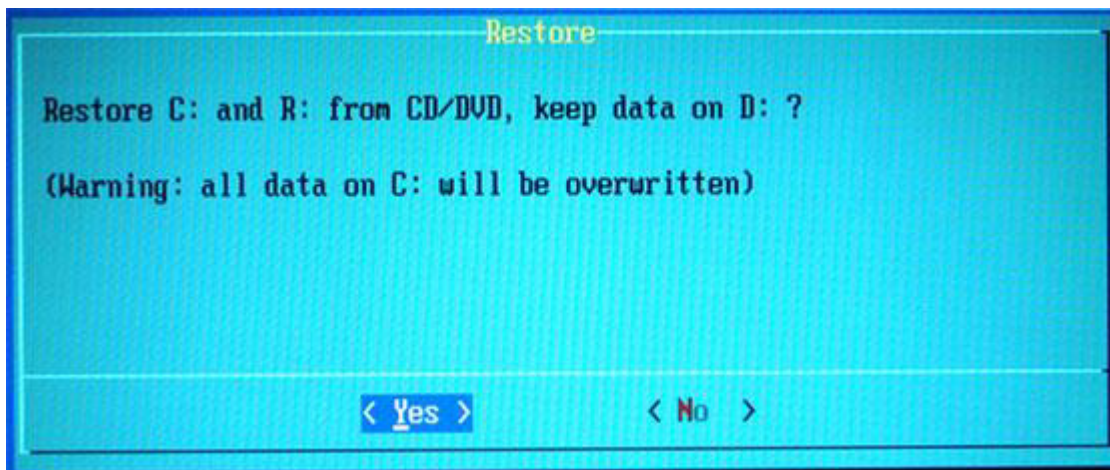

Figure 5-42 Confirm dialog with YES
- 2.) **Only if you are sure you have saved the “Full System Configuration”**, select YES in the following dialog box (see: Figure 5-42 below) and confirm with ENTER.